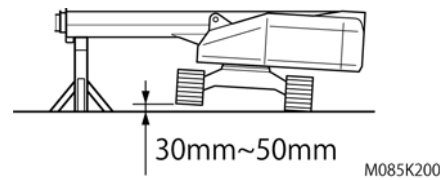

Fig. 2-3
3. Lower the boom slowly to press the boom against the wood block, and allow the clearance of 30 - 50 mm (1.2 - 2.0 in) between the track and the ground as shown in the Fig. 2-3.